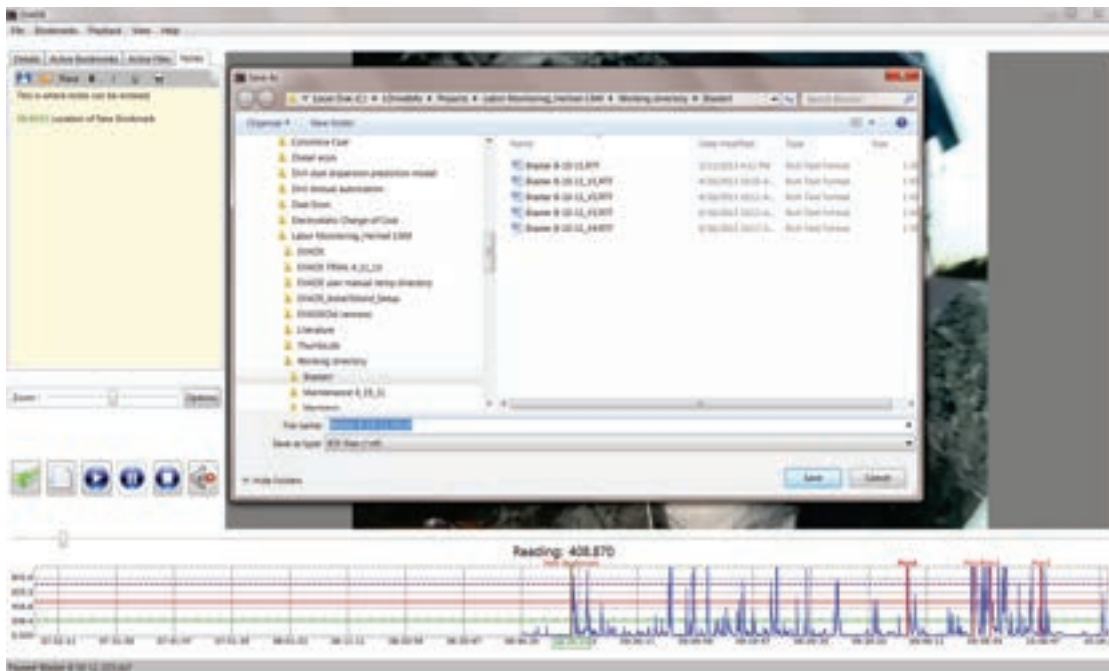

Figure 57. Display of the Save As dialog box when the Notes tab is selected
- **Save As.** Clicking on the **Save As** button opens the Save As window (Figure 57). The default file name displayed is the name of the video file with an *rtf* extension. Anything written in the Notes Tab will be automatically saved to this file name in *rtf* format. This default file will be overwritten automatically. You can edit the filename in this window if desired, to prevent overwriting previous notes or to make changes. Subsequent Save As default file names will include *_V1* such that the filename will have the format *filename_V1.rtf*; the *_V1* will increase to *_V2*, *_V3*, etc. as additional saves are completed. When EVADE is exited and re-opened, the EVADE program will display the notes from the original default filename (*videofilename.rtf*).